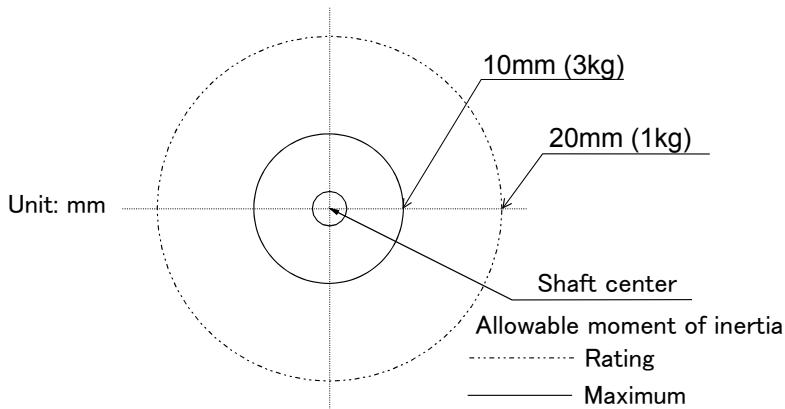

Fig.2-6 : Position of center of gravity for loads (for loads with comparatively small volume)
- (1) The tooling should have the value less or equal than the smaller of the tolerable inertia and the tolerable moment found in Page 7, "2.1.1 Basic specifications".
- (2) Fig. 2-6 shows the distribution dimensions for the center of gravity in the case where the volume of the load is relatively small. Use this figure as a reference when designing the tooling.
- Please use the robot in the allowable moment of inertia of maximum moment of inertia shown in Fig. 2-6, when loading mass is maximum (3kg).